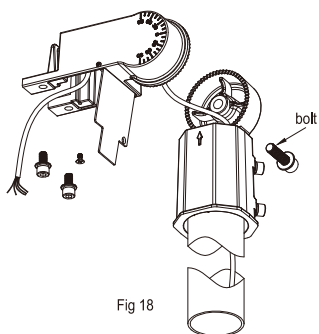

Fig 18
Step 3 .Tighten the bolts using a wrench after passing the lamp cable through the LAMP Holder, as shown in Figure 18.